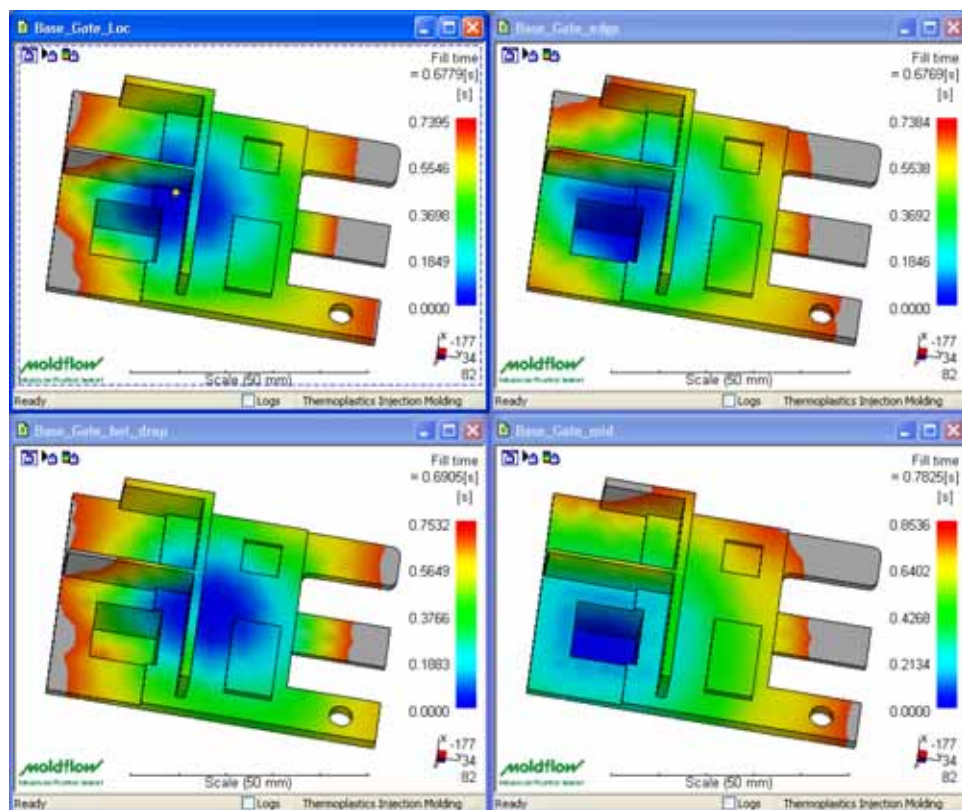

Figure 168: Example of fill time plots
- An example of plotting fill time is shown in Figure 168.